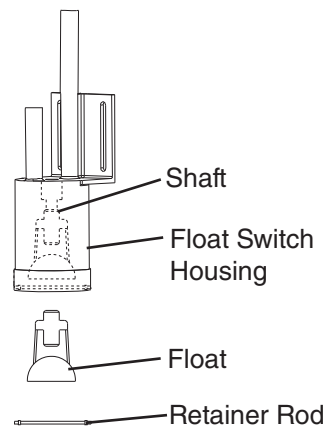

Fig. 4
- 4) Remove the retainer rod from the bottom of FS assembly, then remove the float. Be careful not to bend the retainer rod excessively when removing it. See Fig. 4.